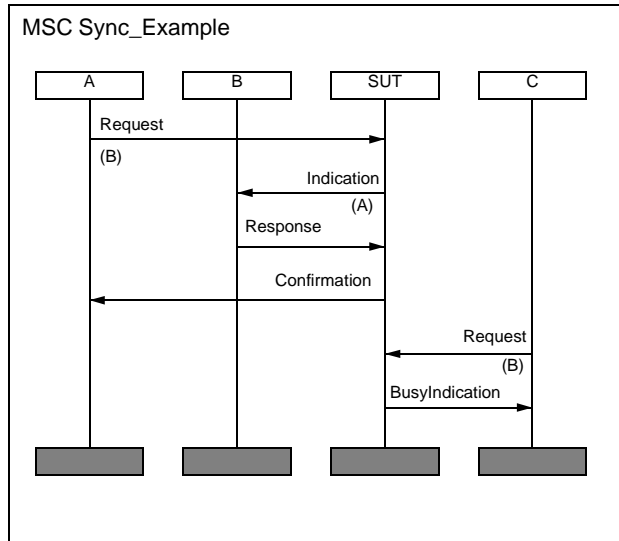
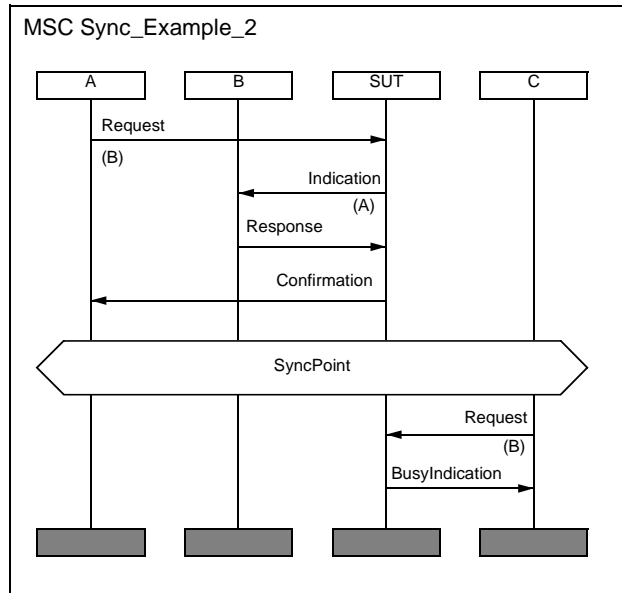

Figure 256: Synchronization example 1
Figure 257: Synchronization example 2
However, there are situations where this “send immediately” strategy leads to incorrect test cases. Consider the following small example: A calls B, B accepts the call, then C tries to call B and gets a busy signal. A corresponding MSC test purpose description would look similar to the one in Figure 256. What test sequence will Autolink generate? First, the tester will send `Request (B)` to the SUT through PCO A. Next, `Request (B)` will be sent to the SUT through PCO C, since this is the next send event on any of the tester instances.
Most likely, this is not what you have anticipated intuitively; the tester should send the second *Request (B)* only after it has received *Confirmation* through PCO A. This is where explicit synchronization with conditions comes in. Figure 257 contains the same MSC as Figure 256, with a global condition added between the reception of *Confirmation* at PCO A and the sending of *Request (B)* through PCO C. If the Autolink synchronization option is turned on (with *Define-Condition-Check*), then events below the condition can only be executed if all events above the condition have been executed as well. The condition effectively becomes a synchronization point. In the example, the sending of *Request (B)* through C will be delayed until *Confirmation* has been received at PCO A. The name in the condition is required by the ITU Recommendation Z.120, however it is only considered as a comment and does not have any semantics.